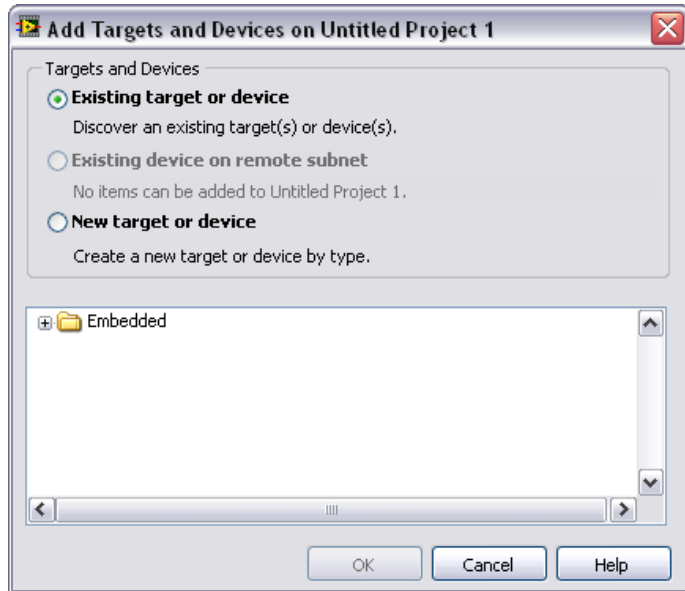

Figure 3. Add Targets and Devices Dialog Box
3. Right-click **Project:Untitled Project 1** in the **Project Explorer** window and select **New»Targets and Devices** from the shortcut menu to open the **Add Targets and Devices** dialog box as shown in Figure 3.